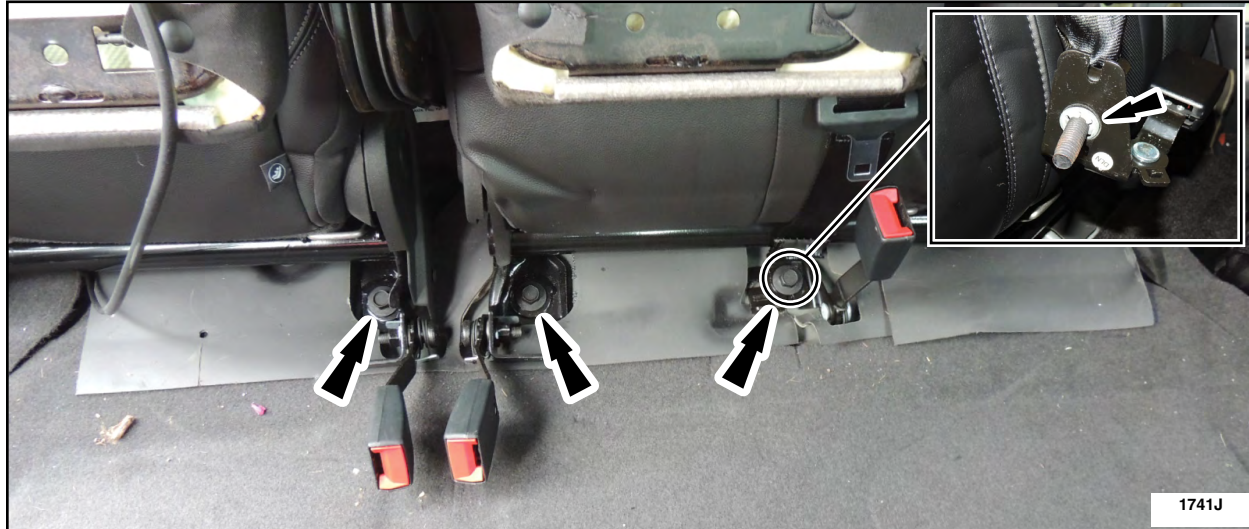

FIGURE 5
3. Remove and discard the three seat backrest-to-floor rear bolts. See Figure 5.
3. Install three *new* seat backrest-to-floor rear bolts. See Figure 5.